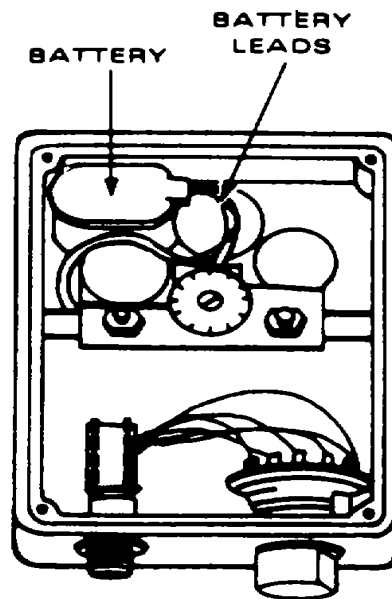

Figure 3-14. Total Dissolved Solids (TDS) Meter (Portable) Battery Replacement
a. Calibration. Perform a calibration check in accordance with para. 2-32c(4) each time before using TDS meter. Whenever switching to or from seawater sources, meter must be recalibrated in accordance with para. 2-32c(2) or para. 2-32c(3).
b. Battery Replacement (fig. 3-14):
- (1) Remove bottom plate.
- (2) Disconnect leads from battery.
- (3) Install new battery and connect leads.
- (4) Install bottom plate.
- (5) Check calibration in accordance with para. 2-32c.
- (6) If reading cannot be adjusted after replacing battery, replace the TDS meter.